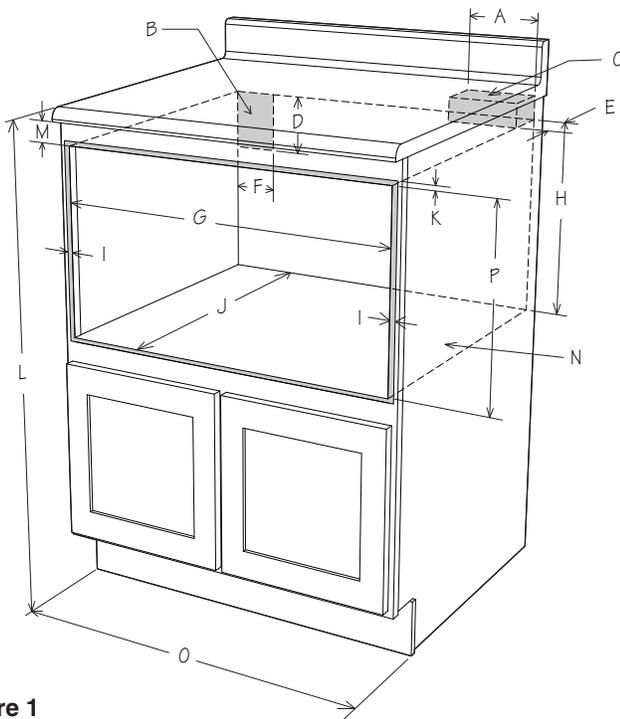

Figure 1
For **SAFETY CONSIDERATIONS** do not install drawer in any combustible cabinetry, which is not in accord with the stated clearances and dimensions on pages 2 - 5. See Figures 1 - 7.
- Dimensions that are shown in Figure 1 must be used. Given dimensions provide minimum clearance. Locate electrical outlet in the shaded area in the upper left-hand corner of the cutout. See Figure 9.
Figures 1 and 2 contain many Microwave Drawer measurements for reference when planning the drawer's location.
To reduce the risk of tipping of the drawer, the Anti-Tip block must be properly installed located 14 13/16-inches above the floor on which the Microwave Drawer will sit. The 6-inch Anti-Tip block must be provided by the installer. See Figure 1. The Anti-Tip block prevents serious injury that might result from spilled hot liquids.